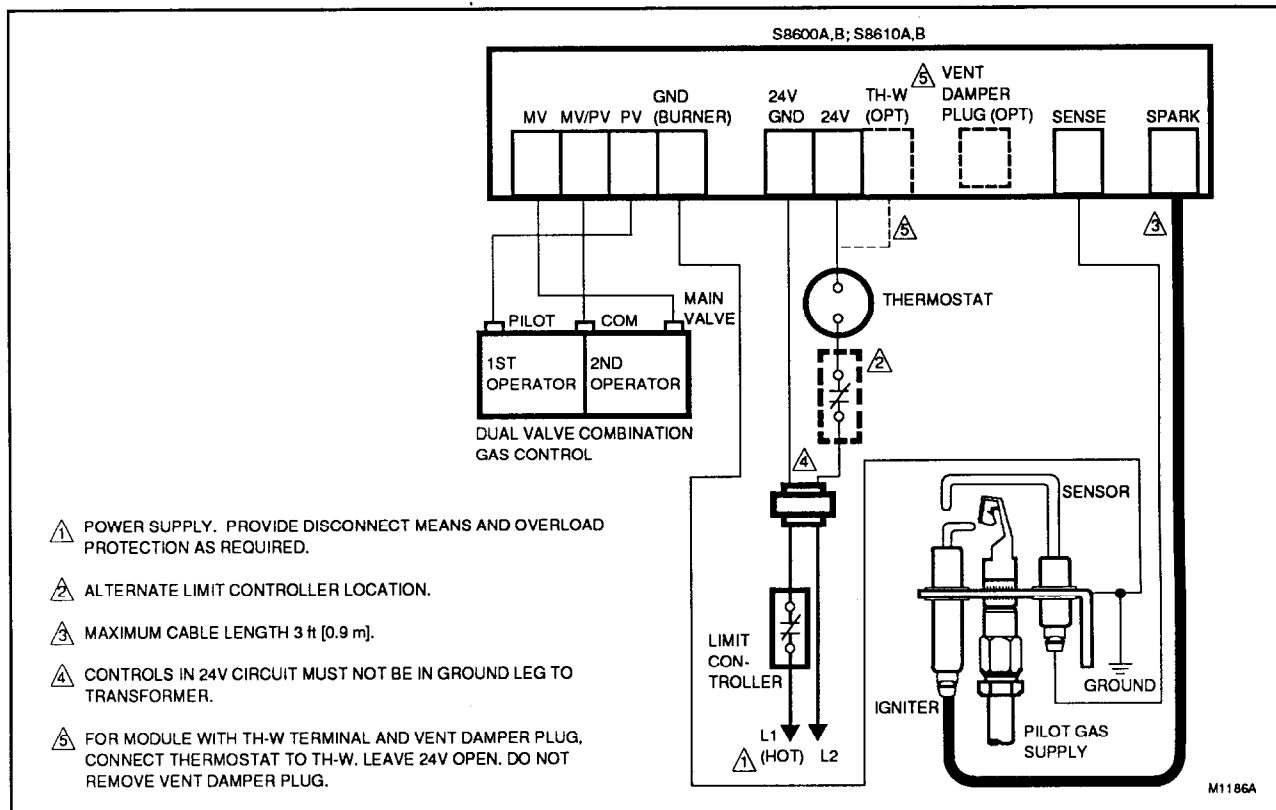

FIG. 4—S8600A,B; S8610A,B CONNECTIONS IN A HEATING SYSTEM.
- Figs. 4 and 5 show S8600A,B; S8610A,B with separate sensor and igniter, with and without the D80D vent damper.
- Figs. 6-11 show S8600F,H,M; S8610F,H; S8660D; and S8670D in a variety of systems, with alternate connections for modules with vent damper plug. Remember, however, that a vent damper should not be used in an fan-assisted combustion system or an LP gas system and that the vent damper plug must not be removed except to connect the module to a D80D with the plug-in cable. S8600A,B can be substituted in these drawings by simply connecting the igniter and sensor as shown in Figs. 4 and 5.